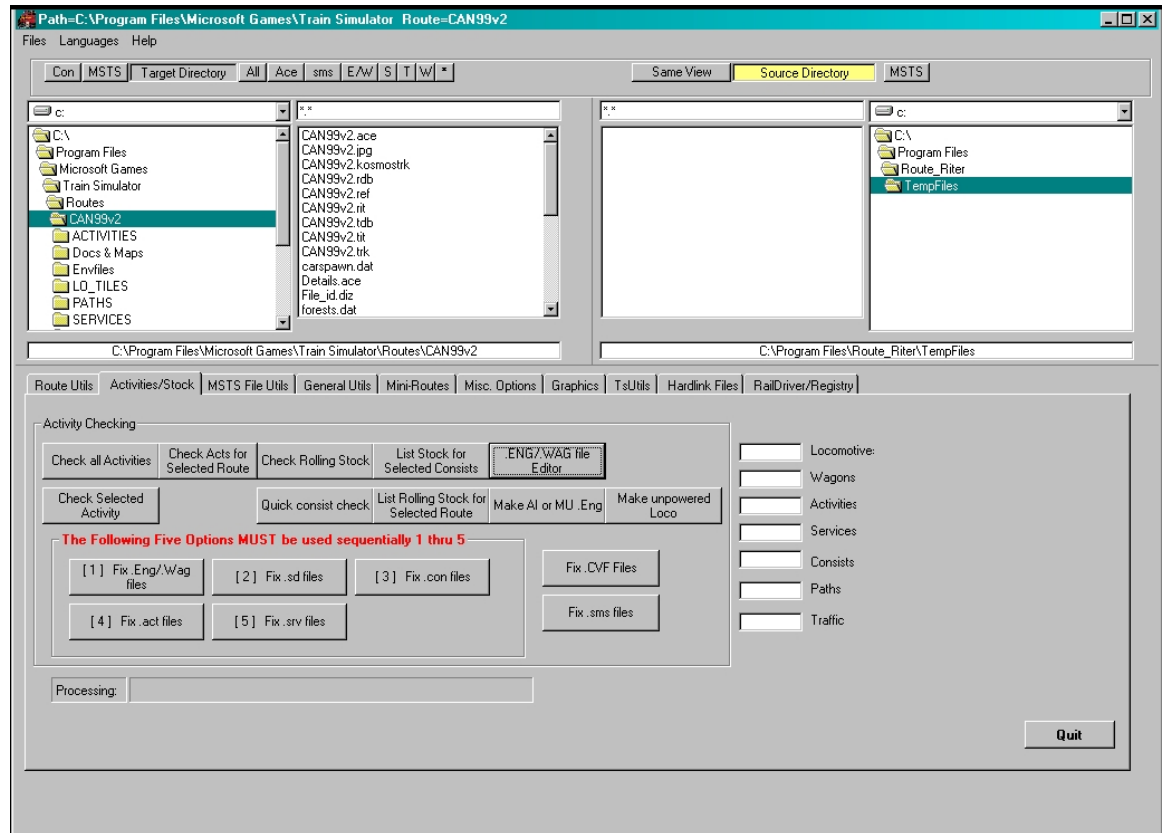

Figure 3
2. Open **Route_Riter** and left-click the "**Actities/Stock**" tab. The window in Figure 3 should be what you see.